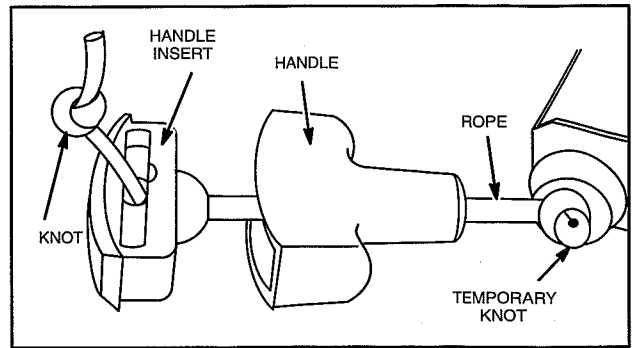

Fig. 7 – Install Handle
5. Insert rope through starter rope handle and starter rope insert, Fig. 7.
6. Tie knot on end of rope, Fig. 7.